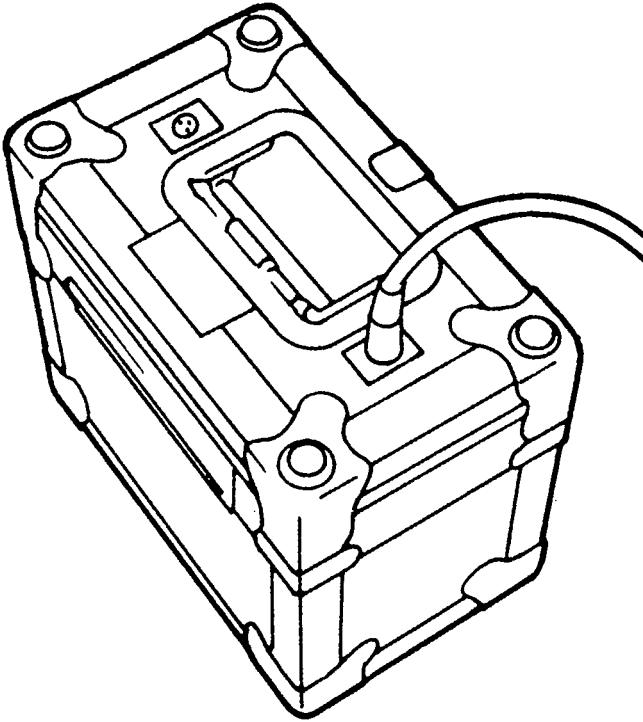

Figure 4.11 Panavision 24-volt double block battery. (Reprinted from the *Panaflex Users Manual* with permission of David Samuelson and Panavision Inc.)
- Each battery should have a charger, either built-in or separate (see Figures 4.11, 4.12, and 4.13).